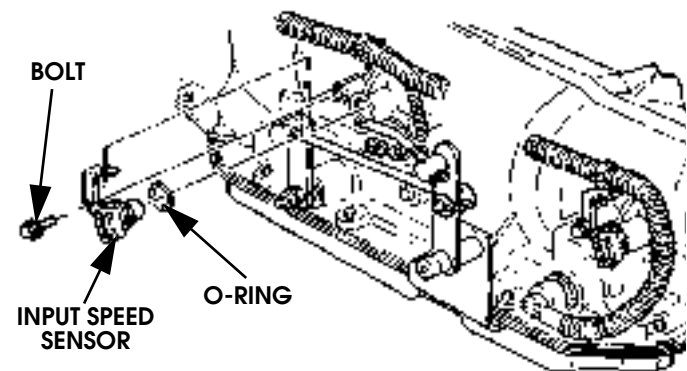

Figure 5-65: Speed Sensor Removal/Installation
5. Remove O-ring seal from sensor (Figure 5-65).